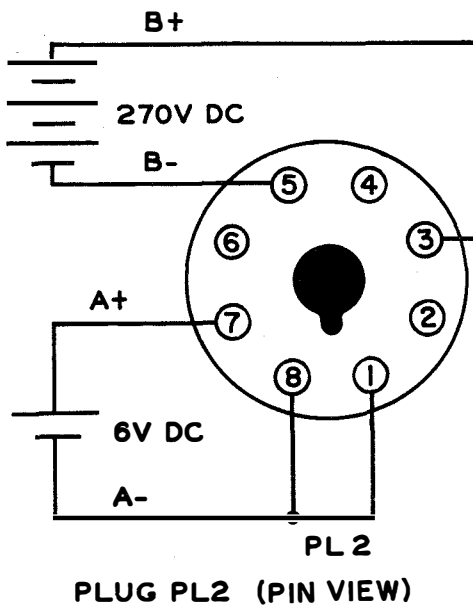

Figure 3-5. Radio Receiving Equipment Navy Model RBK-16, D-c Power Plug Wiring Diagram.
230 volt position both transformer T16 primaries are connected in series. The receiver tube heaters and the pilot lamps are connected in parallel and are supplied by the 6.3 volt secondary winding of transformer T16 through choke L8. Filament voltage for the rectifier tube V13 is supplied by the 5 volt secondary winding of transformer T16. Tubes V1 and V2 have r-f decoupling capacitors C46 and C47 connected across their heaters, and tubes V15 and V16 have an r-f decoupling network consisting of capacitors C45 and C39 connected across the heaters and chokes L4 and L9 connected between their heaters and the common heater supply. Tube V13, a type 5U4G full-wave rectifier, receives its high voltage supply from the 540-volt center-tapped secondary of transformer T16. For d-c operation of the receiver, shorting plug PL2 must be removed from socket SO1. The batteries are then connected to the unwired duplicate of plug PL2 (see figure 3-5). Connect the A+ lead of the 6 volts at 4.5 amperes to pin 7 of plug PL2 and the A- lead to pins 1 and 8; the B+ lead of the 270 volts at 145 milliamperes to pin 3 of plug PL2, and B- lead to pin 5.
a. The receiver is put into operation by applying 115v or 230v, 50/60 cps a-c to socket SO5 (refer to Section 3, par. 2e), and turning the SELECTIVITY switch to either the SHARP or BROAD position. Make sure that 115V-230V switch SW10, is in the correct position for the voltage being applied. For d-c operation connect a 270v "B" battery, positive to pin 3 and negative to pin 5 of plug PL2, and 6v "A" battery, positive to pin 7 and negative to pin 8 of plug PL2, and insert plug PL2 in socket SO1. When the batteries are used with the receiver, A.C. OFF switch SW7D and REC.-SEND switch SW5 are not in the circuit, so it is necessary to have an external switching arrangement to turn the receiver on and off. (See figure 3-5).